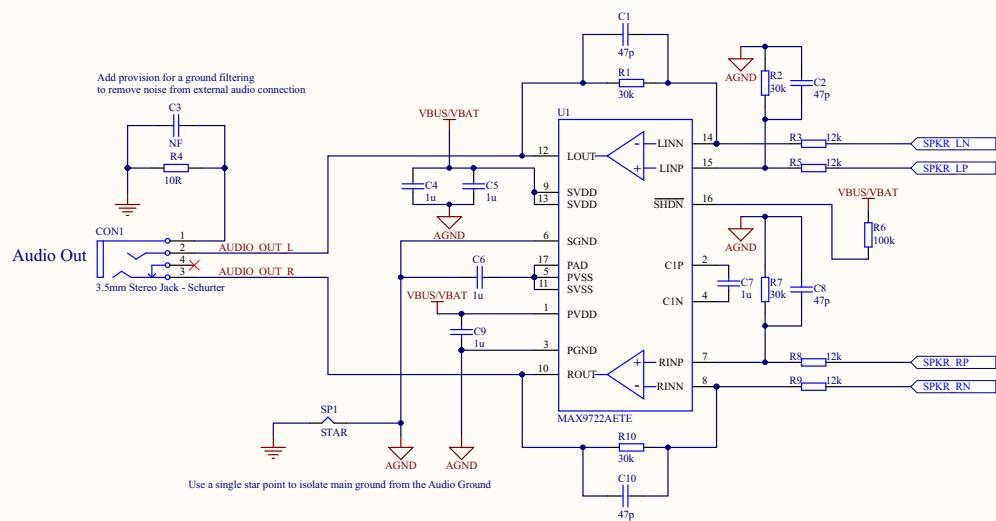

Figure 4-8: Isolating the Sleeve Ground from the Amplifier
- When connecting to external devices such as laptops in a "Line In" configuration, there is a possibility that the sleeve of the audio cable can carry noise derived from the laptop. Also external devices connected through the audio cable sleeve can have different ground potentials which causes currents to flow through the sleeve ground. In these cases, it is important to isolate the sleeve ground from the audio amplifier to avoid the noise coupling to the amplifier and degrading the signal source. To do this, add a filter circuit or ferrite bead connecting the sleeve ground to the ground on the application board as shown in Figure 4-8 below.